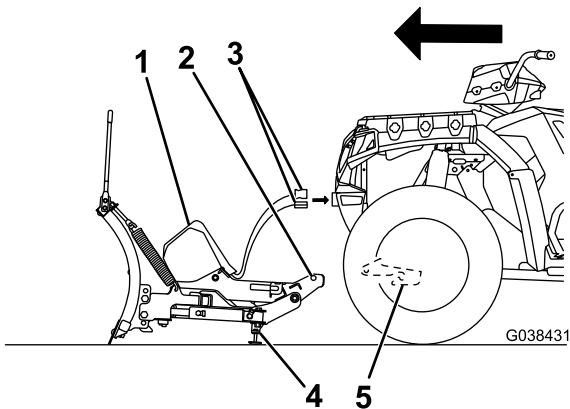

Figure 19
2. Line up the vehicle with the snowplow and drive forward until the lower pin contacts the pin receiver (Figure 19).
5. Remove the electrical-plug dust-covers and connect the plow wire harness to the vehicle wire harness (Figure 19).